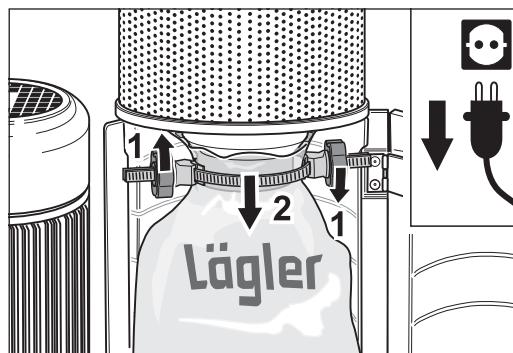

Fig. 46 Loosen the MultiClip by opening the nuts (1) and pull the dust bag and the MultiClip from the neck of the dust separator (2).
- 3 Loosen the MultiClip by opening the nuts (fig. 46, 1).**
- 4 Carefully pull the full dust bag and the MultiClip from the neck of the dust separator (fig. 46, 2).**